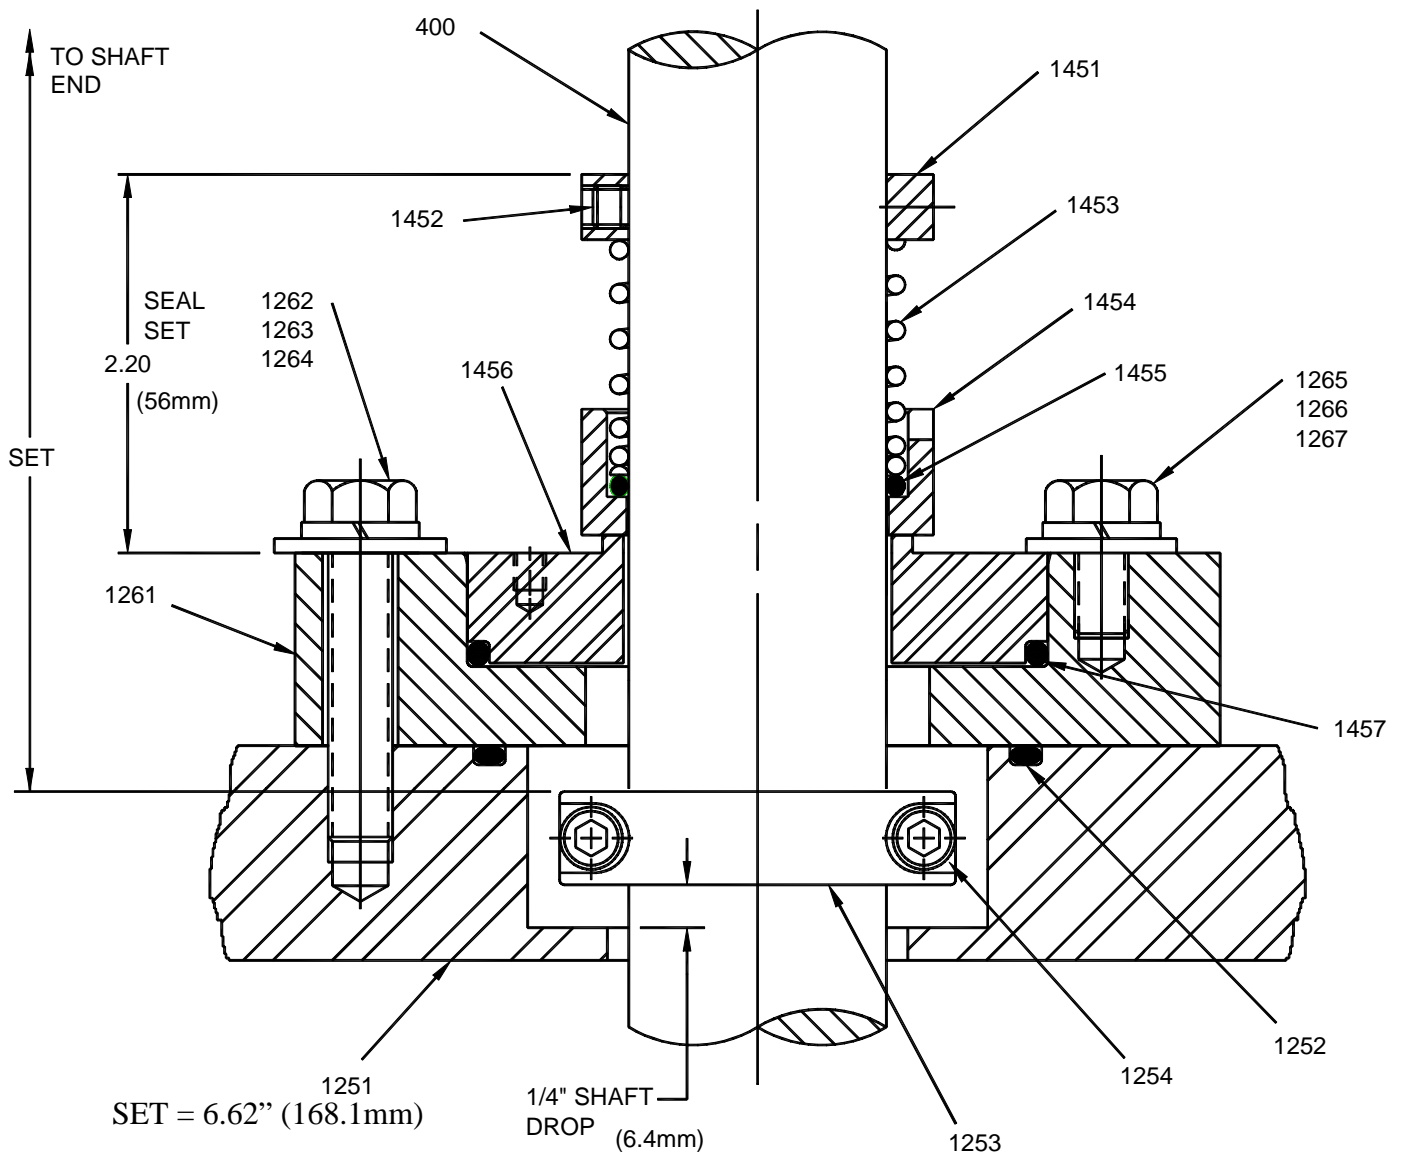

Figure 5: Model DTNS Seal, Flowserve MCRO
10. Set collar **[1451]** at 2.20" (55.9mm) above the adapter plate face per *Figure 5, page 11*. Evenly tighten all cup point setscrews **[1452]**.